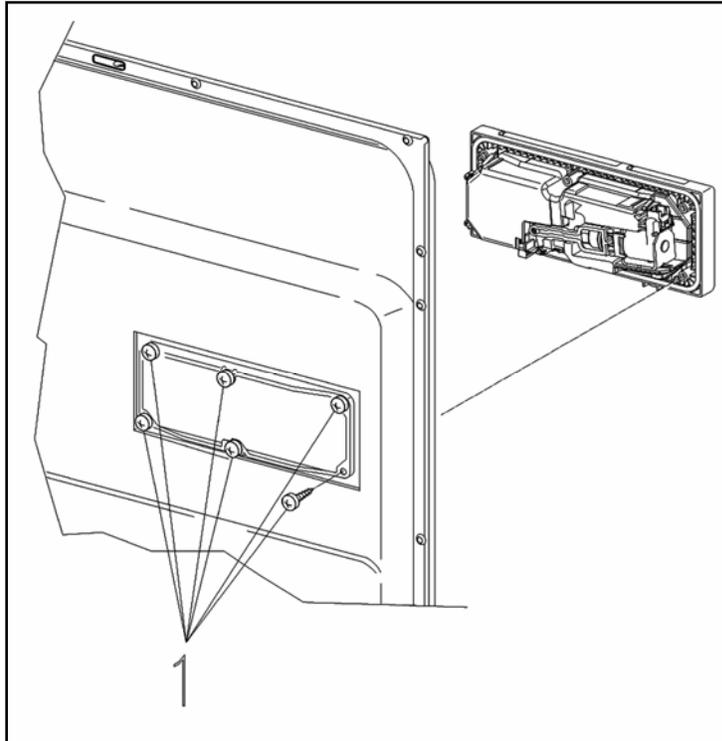

Figure 5-12: Dispenser Removal
3. Remove the retaining screws (Figure 5-12, Item 1).